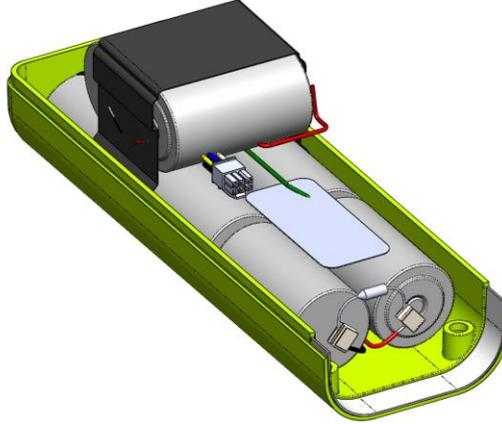

Figure 4 Battery Pack Assembly
- 4) The battery pack assembly for the ARTEX ELT 4000 consists of eight "D" size alkaline cells (see Figure 4).